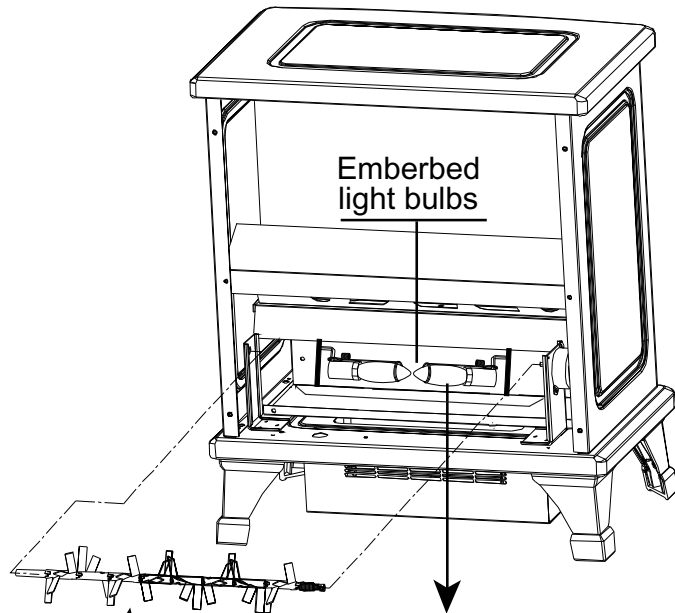

Fig. 5
4. Loosen the screw holding the spinner to the spinner motor, and then remove the spinner (Fig. 5).